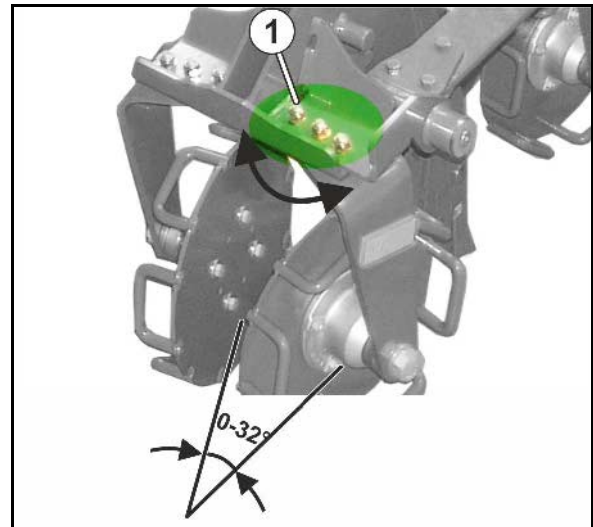

Fig. 97
The calculating disc rule consists of three scales: an outer white scale (Fig. 97/1) for all spread rates over 30 kg/ha and an inner white scale (Fig. 97/2) for all spread rates under 30 kg/ha. In the central, coloured scale (Fig. 97/3) the gearbox settings 1 to 100 are specified.
2. On the calculating disc rule, set the spread rate **125 kg/ha** (Fig. 97/A) and the gearbox setting **50** (Fig. 97/B) above each other.
3. On the calculating disc rule, now read the gearbox setting for the desired spread rate of **175 kg/ha** (Fig. 97/C). In our example, this is gearbox setting **70** (Fig. 97/D).